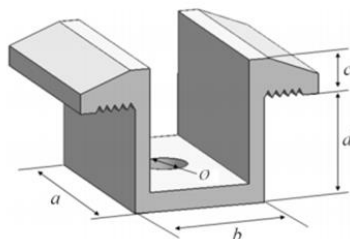
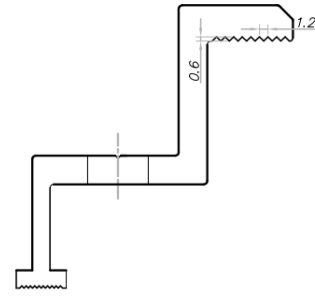
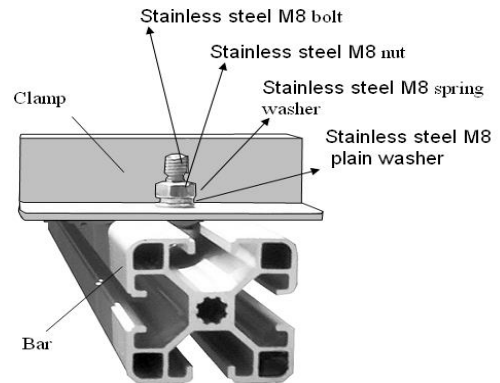

Fig. 10 Schematic diagram of the mid clamp
Fig. 11 Schematic cross section of the fringe clamp
Fig. 12 Schematic diagram of the fringe clamp
- ② Be sure to avoid shadowing effects from the module clamps. Weep holes on the module frame must not be closed or obscured by the clamps. The clamp must have at least 8mm but no more than 11mm overlap with the frame of the module (The clamp section can be changed under the premise of ensuring reliable installation).
- ③ The top surface of the rail contacted with module frame should be equipped with grooves compatible with an M8 bolt.
- ④ If the grooves are not provided, holes of a suitable diameter may need to be drilled to allow bolts attaching to the rail at the same locations as mentioned above.
- ⑤ Ensure that the mounting sequence of each clamp is in the order of flat washer, spring washer and nut.
- ⑥ There are two types of clamps, the mid clamp shown in Fig 10 and the fringe clamp shown in Fig 11 and Fig. 12. The mid clamp has dimensions of $a \geq 40$ mm, $b \geq 26$ mm, $c \geq 5$ mm, $d \geq 28$ mm, $\varnothing = 9$ mm. For module of 182mm-wafer, the size of mid and fringe clamp must meet $a \geq 60$ mm. The tightening torque is suggested to be 17~23Nm for Class 8.8 screw and bolts.
- ⑦ To prevent modules from coming off the fixed device after installation, it is suggested to choose fringe and mid clamps and make contact with the A side of the frame with groove patterns. Suggest to have 9 patterns with a space between 2 adjacent patterns of 1.2mm and a depth of 0.6mm, as shown in figure 11.